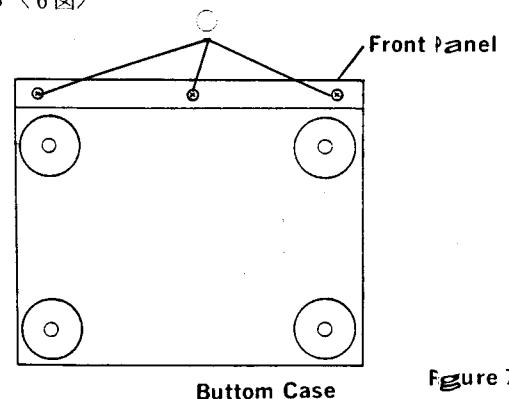

Figure 7 <7図>
- (4) Remove the three screws marked "○" as shown in Figure 7.